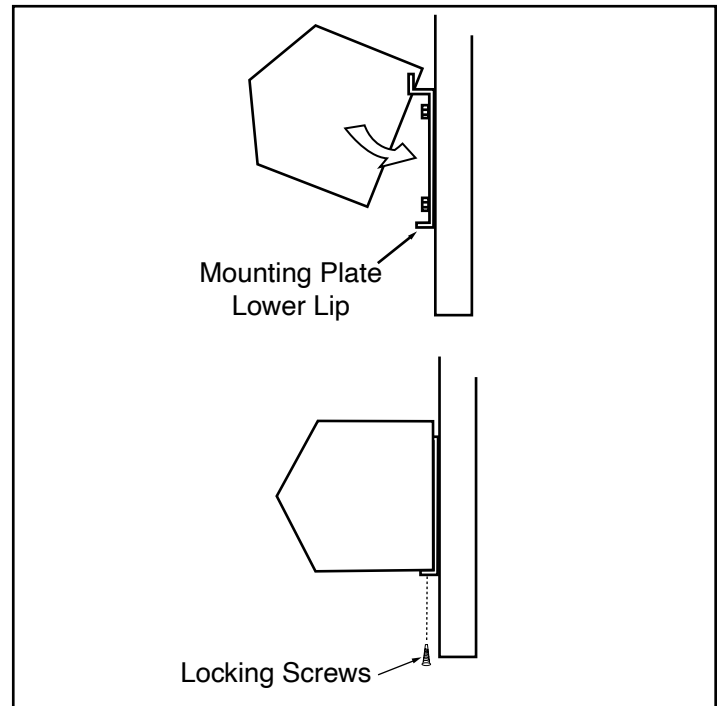

FIGURE 7
- Raise the air curtain over the door (air discharge nozzle facing down) and on to the mounting plate. First, tilt the unit upward matching the rectangular openings to the “Z” lip on the mounting plate. **See Figure 7.**
- After the air curtain is securely attached to the mounting plate, re-install the two (2) locking screws at the bottom corners. **See Figure 7.**